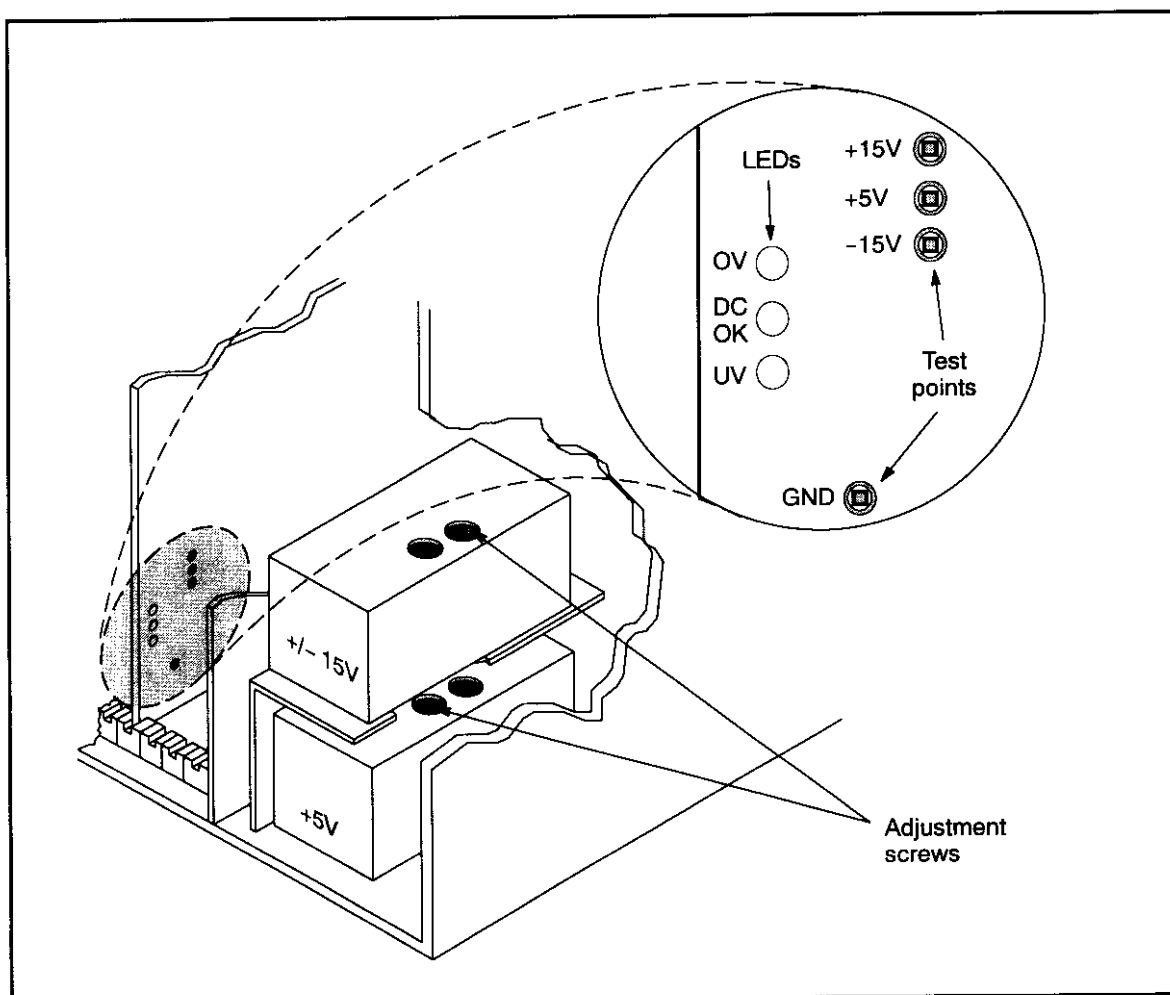

Figure 37. TAC Power Supply Adjustments.
- f. Using the test points shown in Figure 37, connect a multimeter to the appropriate test points on the KPB 961 circuit board in slot 5 to measure the applicable output voltage.
- g. Locate, using Figure 37, the position of the adjustment potentiometer for the desired power supply.